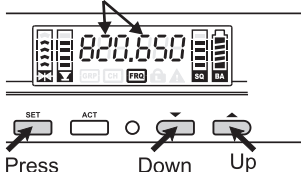

Fig. 14
(D) FRQ: FREQUENCY Setting. Fig. 14